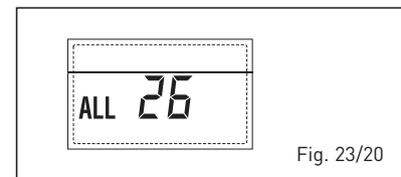

Fig. 23/20
- **ANOMALIE COHERENCE APPLICATION SOLAIRE "ALL 27"** (fig. 23/21)